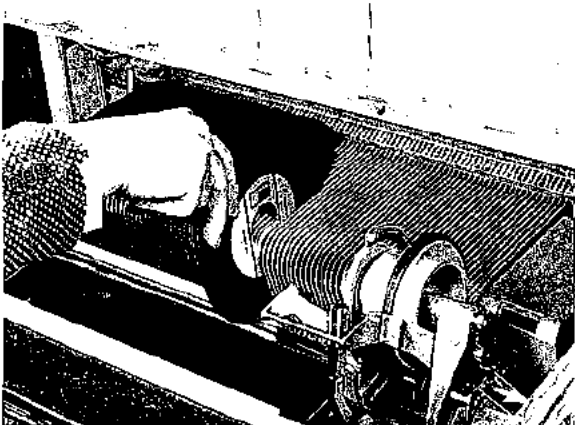

Fig. 3
12. Insert records into record magazine (figure 3) in the order of the title strips, the upper lettering of the magazine marking to the left. Move carriage by pushing it by Hand to any desired position.